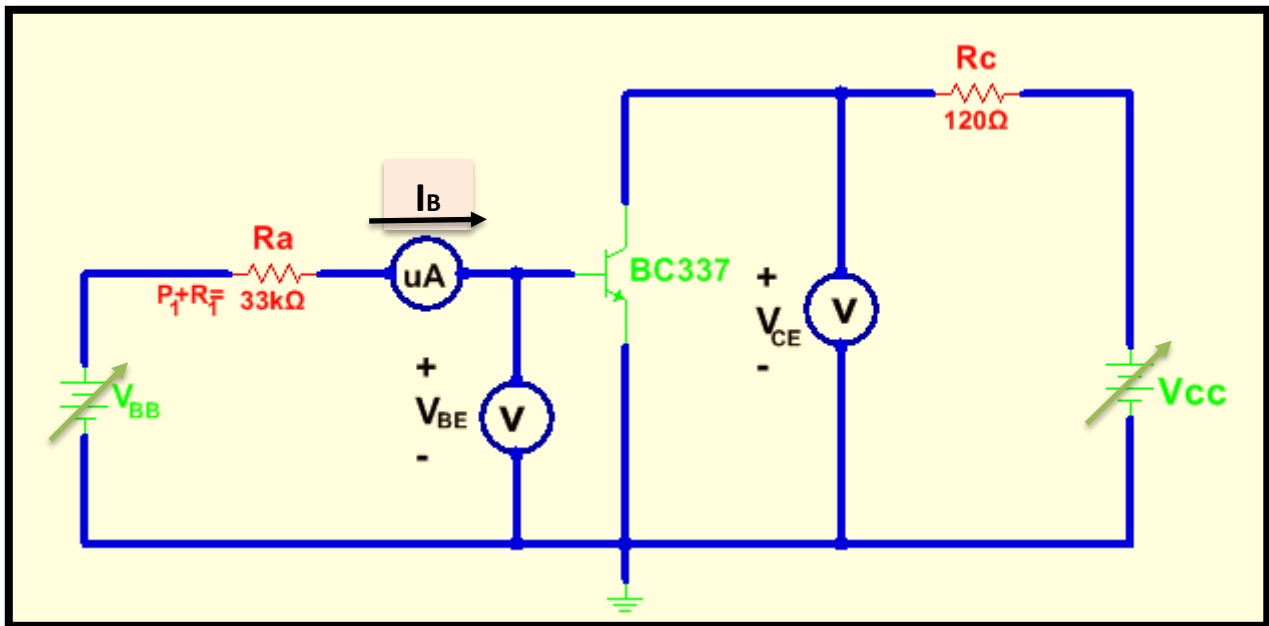

Figure 12: Transistor Test Circuit Used to obtain the Input Characteristics
1. Connect the common emitter test circuit shown in Fig.12. Try to identify the leads of the BC337 transistor correctly. It is built in a M90 package as depicted in Fig.12.